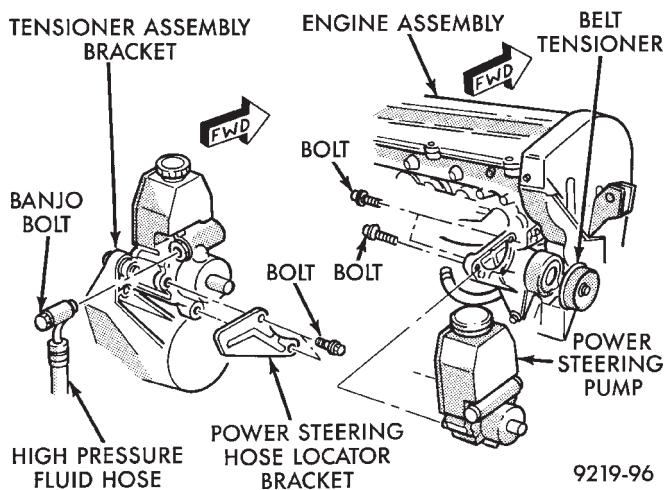
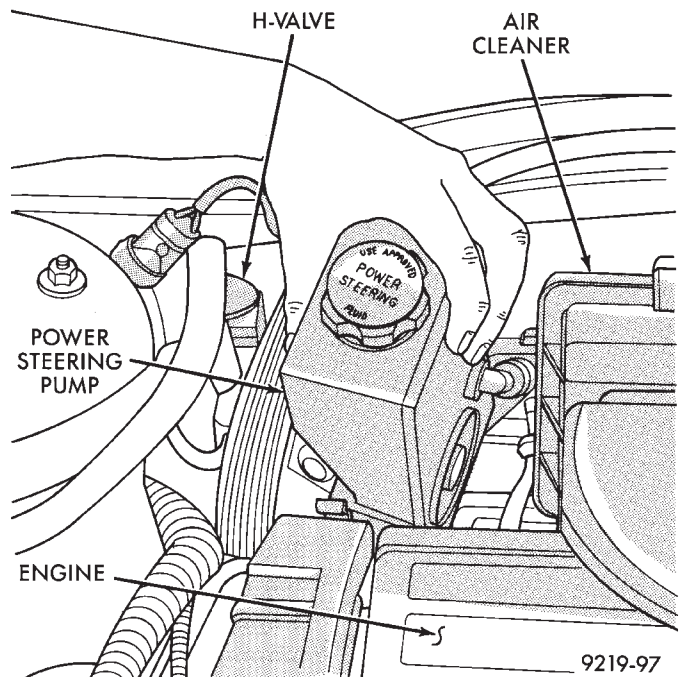

Fig. 19 Power Steering Pump Mounting
Fig. 20 Power Steering Pump Removal From Vehicle
(7) Remove the lower power steering pump to bracket mounting nut and fluid hose routing clip. Remove the 2 bolts and the stud attaching the power steering pump to its mounting bracket (Fig. 19).
(8) Lower vehicle.
(9) Remove the wiring harness electrical connector from the H-valve on the air conditioning fluid lines.
(10) Remove the power steering pump from the vehicle out through the area between the cylinder head and the dash panel (Fig. 20).
(11) Transfer the required components from the failed power steering pump to the replacement power steering pump. See the appropriate area of this service manual section for the component replacement procedures.
(1) Install the power steering pump back into the vehicle in the reverse order of removal, between cylinder head and dash panel (Fig. 20).
(2) Install the wiring harness connector back on the H-valve located on the air conditioning fluid lines (Fig. 20).
(3) Raise vehicle See Hoisting, Group 0.
(4) Install the power steering pump on its mounting bracket, and the hose locator bracket. Install the bolt/stud and 2 bolts attaching the power steering pump to its mounting bracket, and the bolts attaching the hose locator bracket (Fig. 19). Torque all fasteners to 31 N•m (280 in. lbs.).
(5) Install the power steering fluid pressure hose, banjo bolt and seal washer onto power steering pump (Fig. 4). Pressure hose is to be installed so it is routed to the left of the hose locator bracket (Fig. 19). Torque the banjo bolt to 31 N•m (275 in. lbs.). **Inspect the O-rings on the banjo bolt to ensure they are not damaged and located correctly.**